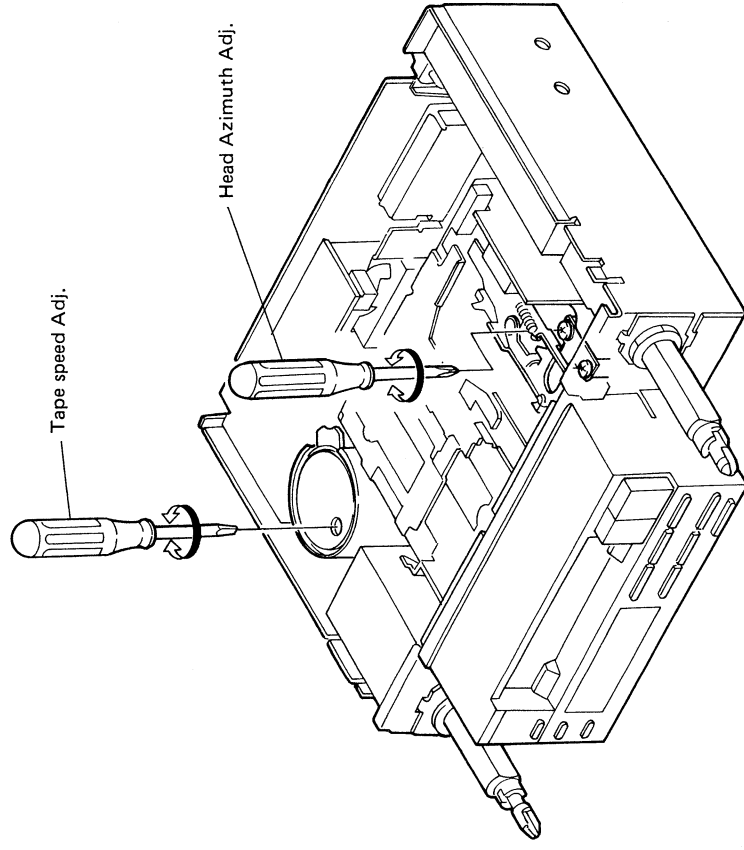

Fig. 18
- Connection Diagram (shown in Fig. 18)